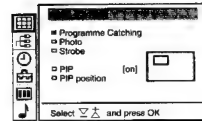

Fig. 33
- 2 Select the symbol  for »MULTI PIP« with Δ + or ∇ - and press OK. The MULTI PIP menu appears (See Fig. 33).